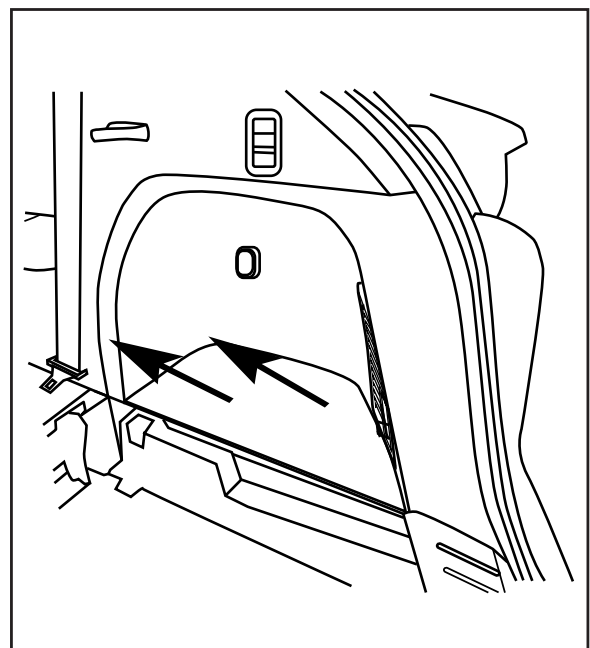

Fig. 7
8. Remove the right side carpeted trunk floor (Fig. 7).